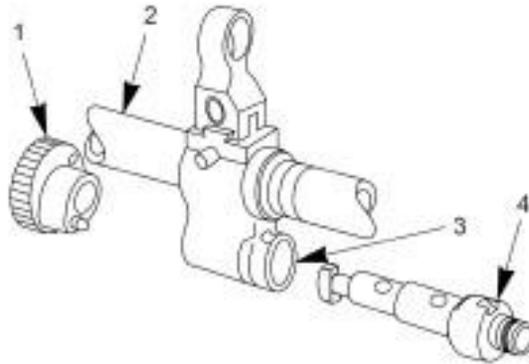

Figure 20. Previous Style Barrel Assembly
9. For previous version barrels, reinstalling gas regulator (Figure 20, Item 4) and gas collar (Figure 20, Item 1) on barrel assembly (Figure 20, Item 2). Do not lubricate gas regulator (Figure 20, Item 4) inside of gas block (Figure 20, Item 3) or inside of collar (Figure 20, Item 1).